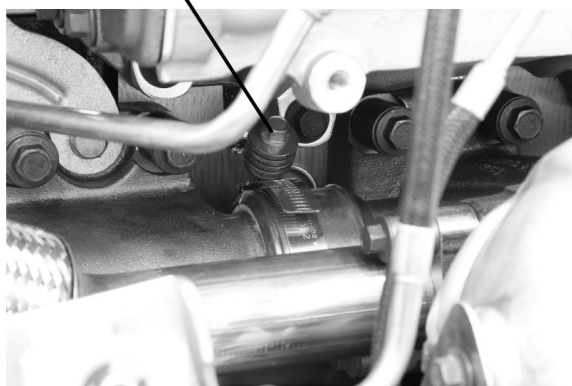

Figure 12: Rear Exhaust Manifold Ring Seal
Ring seal clamp alignment must match the clamp alignment in Figure 12 to prevent problems when installing the outboard EGR inlet tube.
26. Install #1 ring seal clamp (Figure 12, Item 1) center of shield.